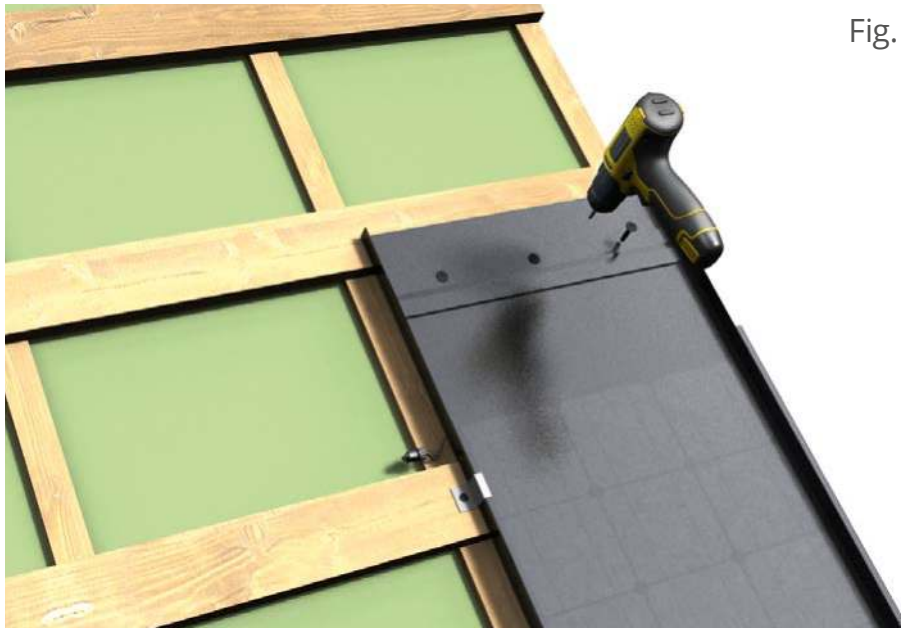

Fig. 13
- d. Fastening small overlapping element by flat headed screws (Fig. 13).